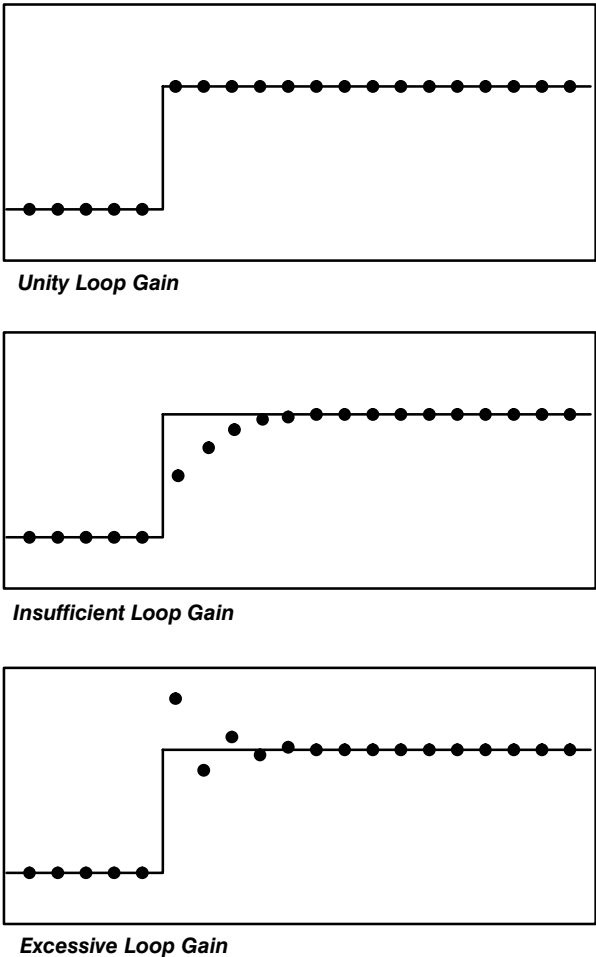

Figure 6: Displayed Trace with Three Loop Gain Settings
When loop gain is unity (1), the value of the first sample acquired after an input voltage change accurately reflects the voltage change, indicating a good dot transient response. Figure 6 shows this condition.
Figure 6 shows displayed trace results for the three loop gain conditions.